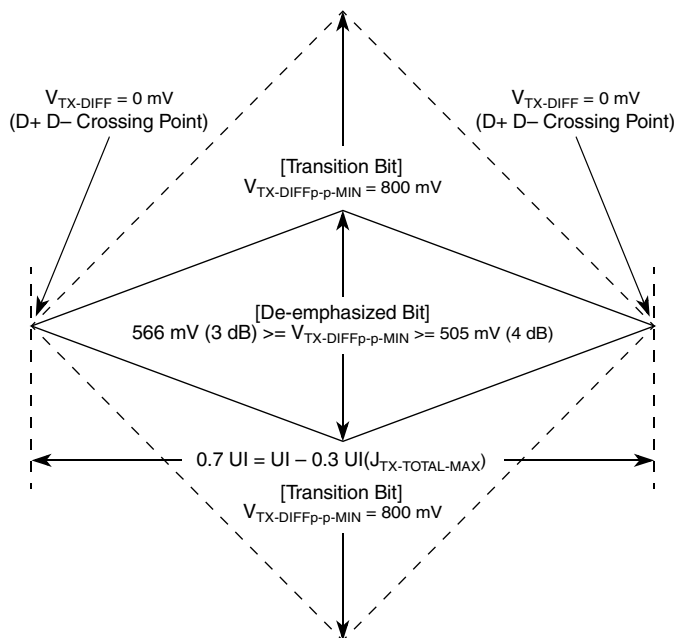
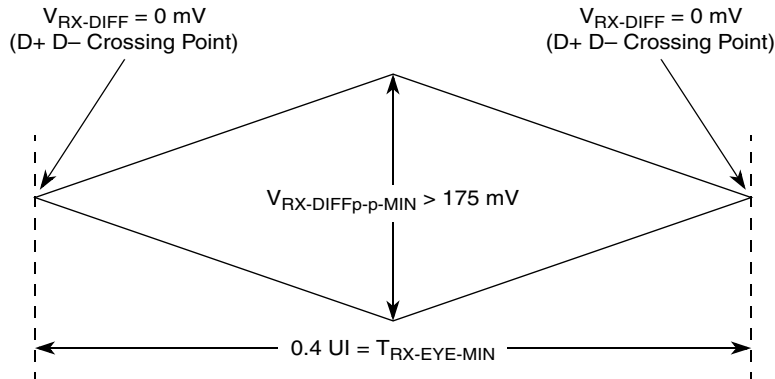
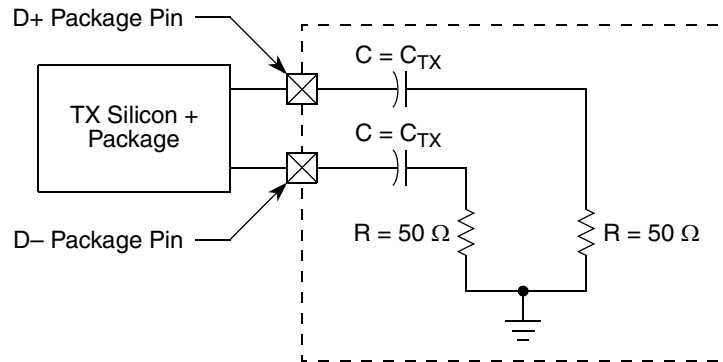

Figure 46. Minimum Transmitter Timing and Voltage Output Compliance Specifications
Figure 47. Minimum Receiver Eye Timing and Voltage Compliance Specification
Figure 48. Compliance Test/Measurement Load
2. Specified at the measurement point into a timing and voltage compliance test load as shown in Figure 48 and measured over any 250 consecutive Tx UIs. (Also refer to the transmitter compliance eye diagram shown in Figure 46.)
4. The transmitter input impedance will result in a differential return loss greater than or equal to 12 dB and a common mode return loss greater than or equal to 6 dB over a frequency range of 50 MT/s to 1.25 GHz. This input impedance requirement applies to all valid input levels. The reference impedance for return loss measurements is 50 Ω to ground for both the D+ and D– line (that is, as measured by a vector network analyzer with 50- Ω probes, see Figure 48). Note that the series capacitors, C_{TX} , is optional for the return loss measurement.
5. Measured between 20%–80% at transmitter package pins into a test load as shown in Figure 48 for both V_{TX-D+} and V_{TX-D-} .
The Tx eye diagram in Figure 46 is specified using the passive compliance/test measurement load (see Figure 48) in place of any real PCI Express interconnect + Rx component. There are two eye diagrams that must be met for the transmitter. Both diagrams must be aligned in time using the jitter median to locate the center of the eye diagram. The different eye diagrams differ in voltage depending on whether it is a transition bit or a de-emphasized bit. The exact reduced voltage level of the de-emphasized bit is always relative to the transition bit.
2. Specified at the measurement point and measured over any 250 consecutive UIs. The test load in Figure 48 should be used as the Rx device when taking measurements (also refer to the receiver compliance eye diagram shown in Figure 47). If the clocks to the Rx and Tx are not derived from the same reference clock, the Tx UI recovered from 3500 consecutive UI must be used as a reference for the eye diagram.
4. The receiver input impedance will result in a differential return loss greater than or equal to 10 dB with the D+ line biased to 300 mV and the D– line biased to –300 mV and a common mode return loss greater than or equal to 6 dB (no bias required) over a frequency range of 50 MT/s to 1.25 GHz. This input impedance requirement applies to all valid input levels. The reference impedance for return loss measurements for is 50 Ω to ground for both the D+ and D– line (that is, as measured by a vector network analyzer with 50- Ω probes, see Figure 48). Note that the series capacitors, C_{TX} , is optional for the return loss measurement.
The Rx eye diagram in Figure 47 is specified using the passive compliance/test measurement load (see Figure 48) in place of any real PCI Express Rx component. In general, the minimum receiver eye diagram measured with the compliance/test measurement load (see Figure 48) is larger than the minimum receiver eye diagram measured over a range of systems at the input receiver of any real PCI Express component. The degraded eye diagram at the input receiver is due to traces internal to the package as well as silicon parasitic characteristics that cause the real PCI Express component to vary in impedance from the
compliance/test measurement load. The input receiver eye diagram is implementation specific and is not specified. Rx component designer should provide additional margin to adequately compensate for the degraded minimum receiver eye diagram (shown in Figure 47) expected at the input receiver based on an adequate combination of system simulations and the return loss measured looking into the Rx package and silicon. The Rx eye diagram must be aligned in time using the jitter median to locate the center of the eye diagram.
The reference impedance for return loss measurements is 50 Ω to ground for both the D+ and D– line (that is, as measured by a Vector Network Analyzer with 50 Ω probes—see Figure 48). Note that the series capacitors, C_{PEACCTX}, are optional for the return loss measurement.
The AC timing and voltage parameters must be verified at the measurement point, as specified within 0.2 inches of the package pins, into a test/measurement load shown in Figure 48.